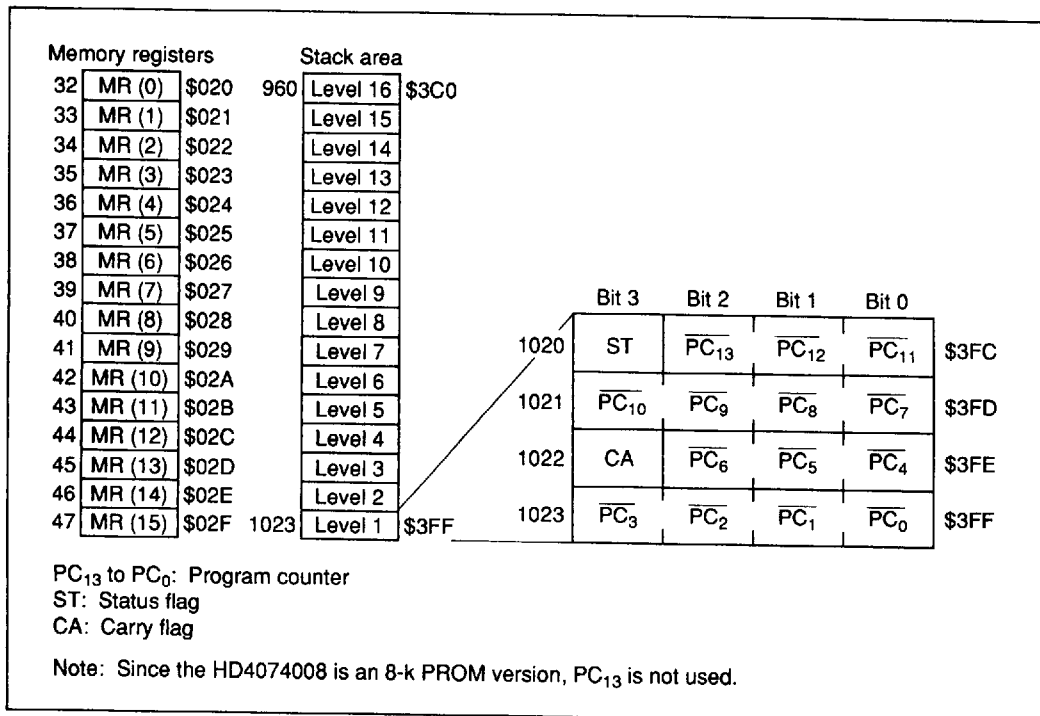

Figure 4 Configuration of Memory Registers, Stack Area, and Stack Position
Data Area (\$020 to \$1DF): The 16 digits of \$020 through \$02F are called memory registers (MR) and are accessible by the LAMR and XMRA instructions (figure 4).
Stack Area (\$3C0 to \$3FF): Locations \$3C0 through \$3FF are reserved for LIFO stacks to save the contents of the program counter (PC), status flag (ST), and carry flag (CA) when subroutine calls (CAL or CALL instruction) and interrupts are processed. This area can be used as a 16-level nesting stack in which one level requires 4 digits. Figure 4 shows the save condition. The program counter is restored by the RTN and RTNI instructions. Status and carry flags are restored only by the RTNI instruction. This area when not used as a stack, is available as a data area.